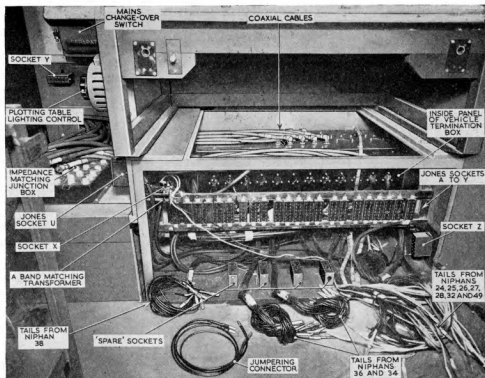

Fig. 40. Termination box
53. Co-axial cables (Uniradio 1) lead from the inside of the termination box to the three consoles and to a platform at the side of console No. 1 (fig. 40). In the case of the consoles, the cables are inserted in plugs on the bottom panels; those at the side of console No. 1 are for insertion in the impedance matching junction box.
57. Place the impedance matching junction box on the raised platform to the right of console No. 1 (fig. 40) and connect the following cables :—